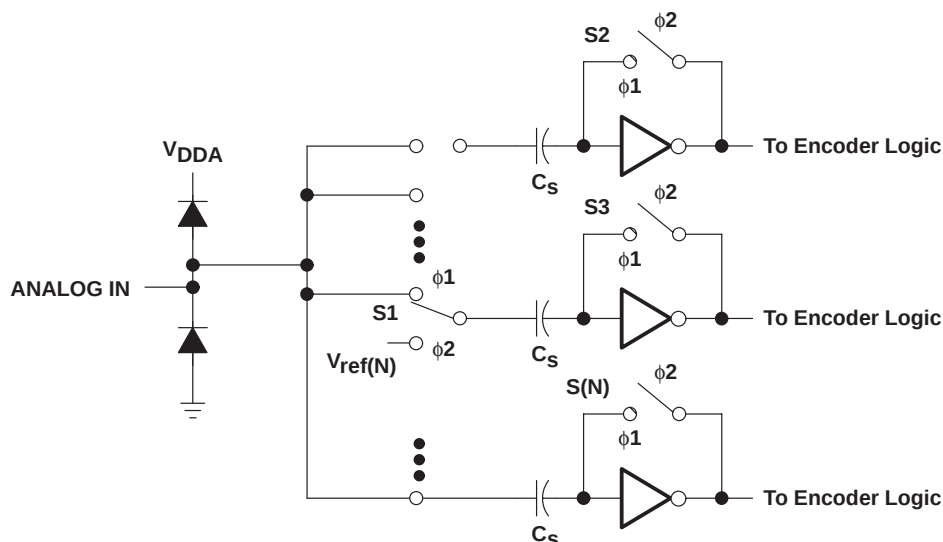

Figure 20. External Connections for Using the Internal Reference Resistor Divider
Figure 20 depicts the analog input for the TLV5510. The switches shown are controlled by two internal clocks, $\phi 1$ and $\phi 2$. These are nonoverlapping clocks that are generated from the CLK input. During the sampling period, $\phi 1$, S1 is closed and the input signal is applied to one side of the sampling capacitor, C_s . Also during the sampling period, S2 through S(N) are closed. This sets the comparator input to approximately 2.5 V. The delta voltage is developed across C_s . During the comparison phase, $\phi 2$, S1 is switched to the appropriate reference voltage for the bit value N, i.e., $V_{ref(N)}$. S2 is opened and $V_{ref(N)} - VC_s$ toggles the comparator output to the appropriate digital 1 or 0. The small resistance values for the switch, S1, and small value of the sampling capacitor combine to produce the wide analog input bandwidth of the TLV5510. The source impedance driving the analog input of the TLV5510 should be less than 100 Ω across the range of input frequency spectrum.